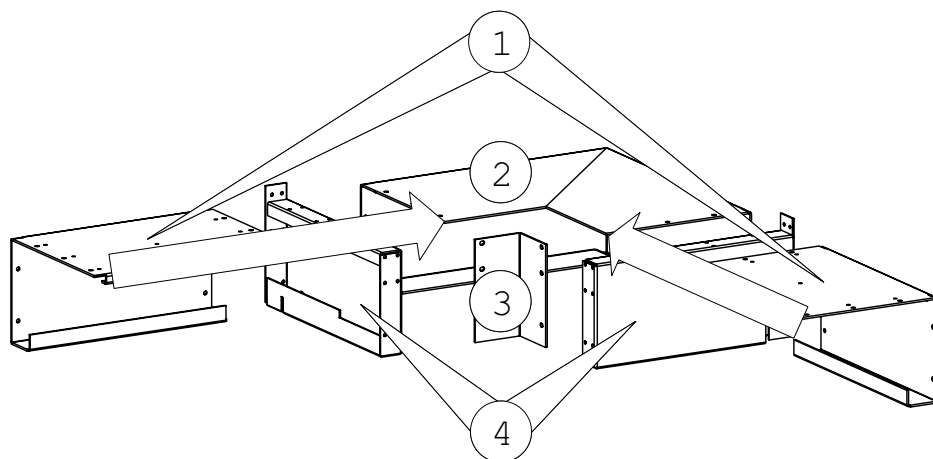

Fig. 2.48. Stage 1 of assembling corner cabinet base.
Dividers of base (4) are fastened with screws to the rear plate (2) and fastened together with a rear/front jointing flange (3). Stage 1 is completed by fastening two back panels (1) to the structure, Fig. 2.48.